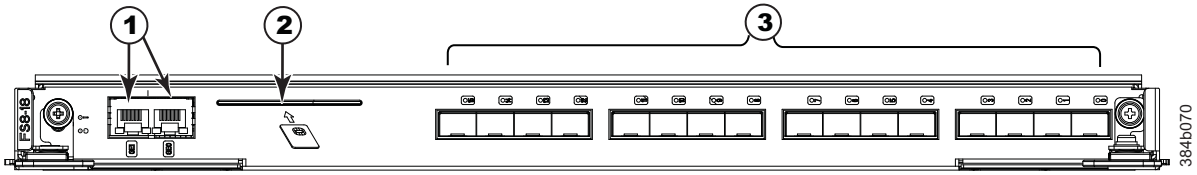

Figure 65. FS8-18 encryption blade
- Figure 65 on page 172 shows an FS8-18 encryption blade